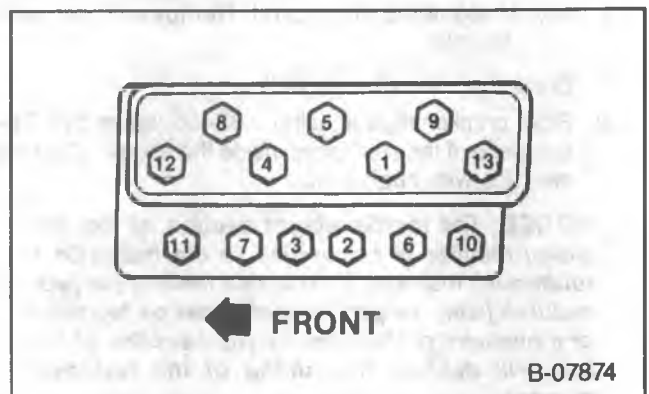

Figure 15 — Cylinder Head Bolt Tightening Sequence
Install or Connect (Figure 15)
- Cylinder head bolts, a little at a time, using the sequence shown in figure 15. Final-torque to 90 N•m (65 ft. lbs.).